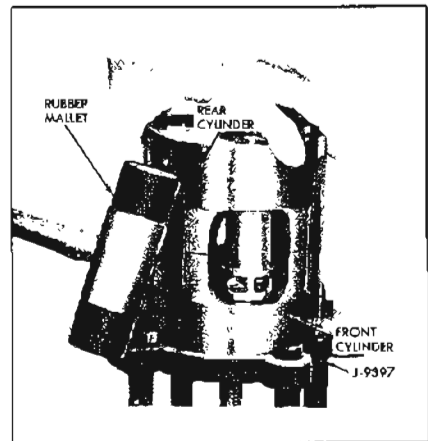

Figure 11-78—Separating Cylinder Halves
14. Place cylinder assembly (front end downward) on top of Compressing Fixture (J-9397), number pistons and cylinders "1, 2 and 3" to facilitate reassembly (see Figure 11-78), and separate cylinder halves using a rubber mallet and wood block.